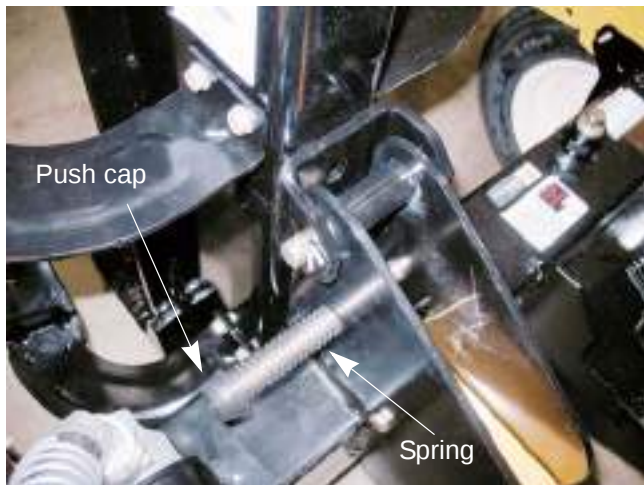

Figure 7.17
1. Pry the push cap off of the vertical locking rod. See Figure 7.17.